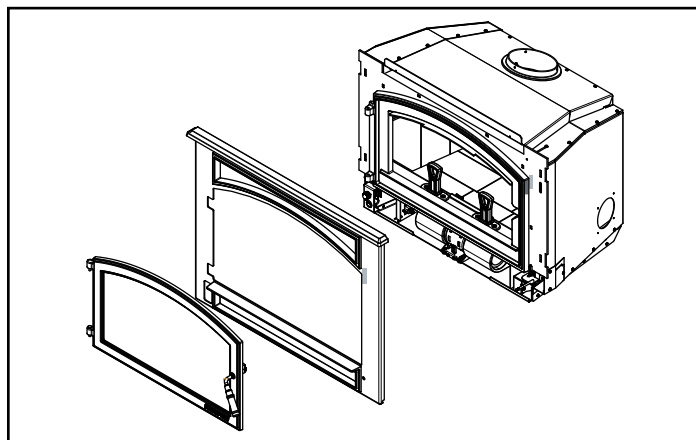

Figure 22.1
2. Remove the door by lifting the door up and off of the hinges; set aside (**Figure 22.1**).
3. Remove the fascia by lifting up and off of the appliance; set aside (**Figure 22.1**).